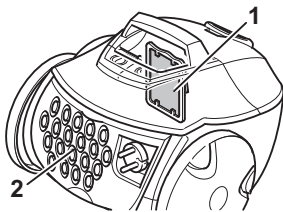

Fig. 21
■ **A protective motor filter (Fig. 21/1)** prevents larger particles from destroying the motor if the dust filter bag is defective.
■ **A hygienic exhaust filter (Fig. 21/2)** filters the finest particles from the blown-out air.